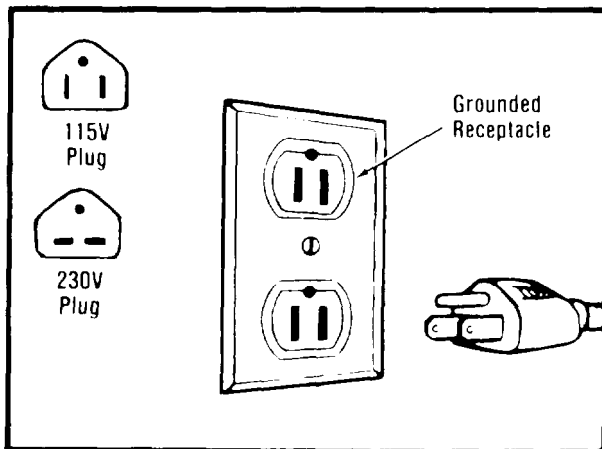

Figure 2. Machine Grounding Instructions.
3. Ground Machine (Fig. 2). This machine should be grounded while in use to protect the operator from electric shock. The machine is equipped with an approved three-conductor cord and three-prong grounding type plug to fit proper grounding type receptacle. The green (or green and yellow) conductor in cord is the grounding wire. Never connect green (or green and yellow) wire to a live terminal. If your unit is for use on less than 150 volts, it has a plug like that shown in Panel "A", (115v). If it is for use on 150 to 250 volts, it has a plug like that shown in Panel "A", (230v).